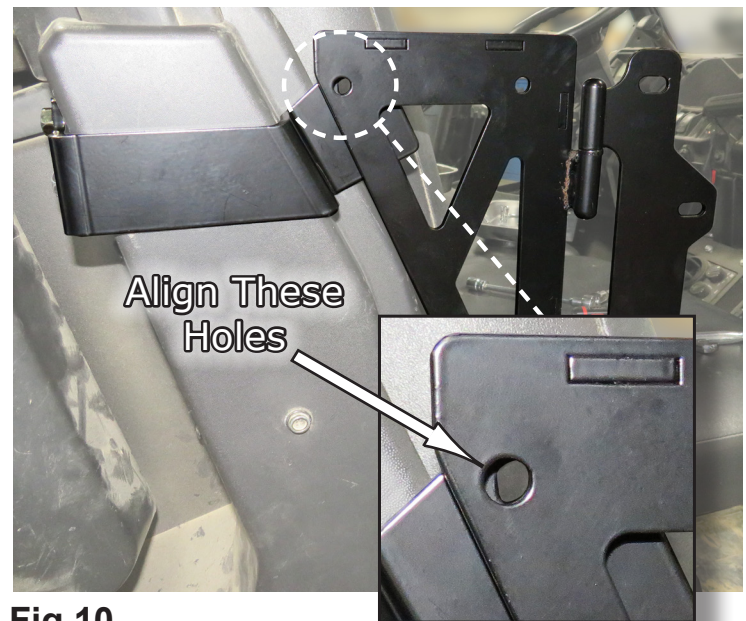

Fig.10
10. Align the top hole as shown in **Fig.10a** as you will next be installing the **Door Filler Panel** over top of these brackets. See **Fig.10**.